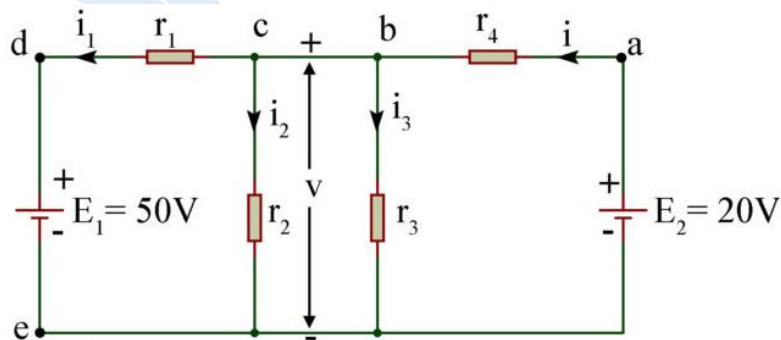

Figure: 2
**Solution:** Let us redraw the circuit with naming of the nodes and branch current as shown in figure 2.